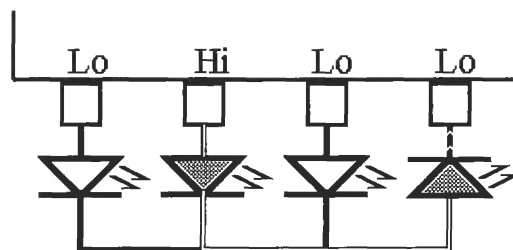

Figure L37-2
- The drawing in Figure L37-2 best explains what is happening.